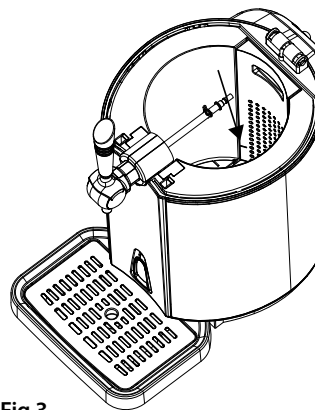

Fig.3
5. Remove the spike with riser pipe from the dispenser. Pour 800 ml cold water into the cooling chamber. Pay attention to the "MAX" mark in the cooling chamber and make sure that there are no other objects inside it (Fig. 3).